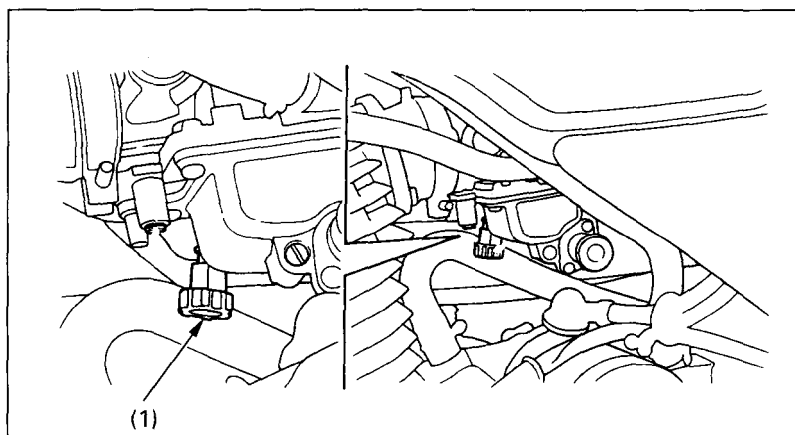

Fig. 4-10
2. Adjust idle speed by turning the throttle stop screw (Fig. 4-10).